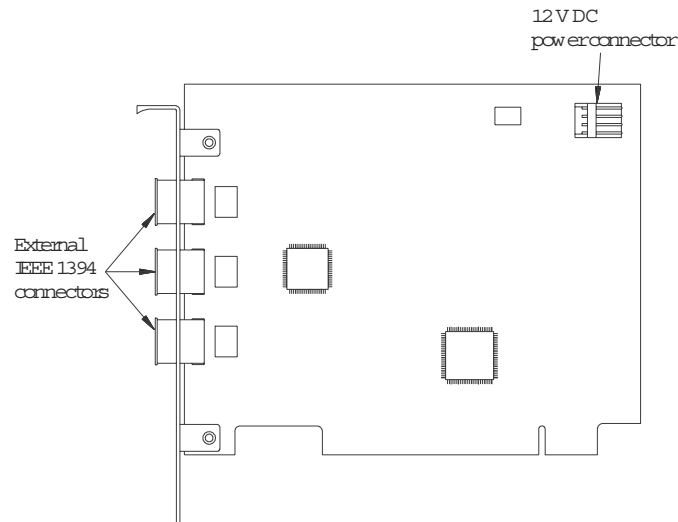

Figure 4-1 Layout of a Typical OHCI-Compatible PCI-to-IEEE Host Adapter.
If your personal computer (PC) currently has a Solectron OHCI403 PCI-to-IEEE 1394 host adapter (Figure 4-1), a later version OHCI0-compatible PCI-to-IEEE 1394 host adapter, or a built-in IEEE 1394 port, continue with step 3, part b, in Chapter 1, "Install the necessary I/O interface cards in your computer." (page 21).